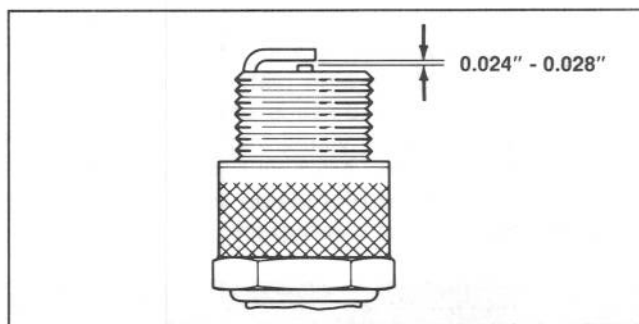

Figure 34
3. Set air gap at 0.024" - 0.028" (Fig. 34). Install correctly gapped spark plug and tighten firmly to 20 ft-lb.